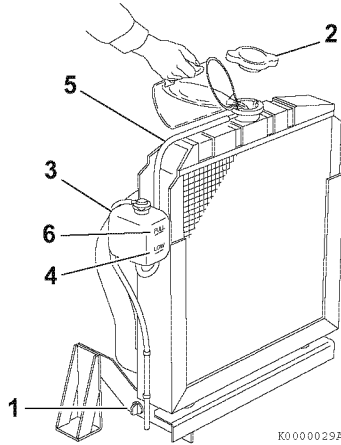
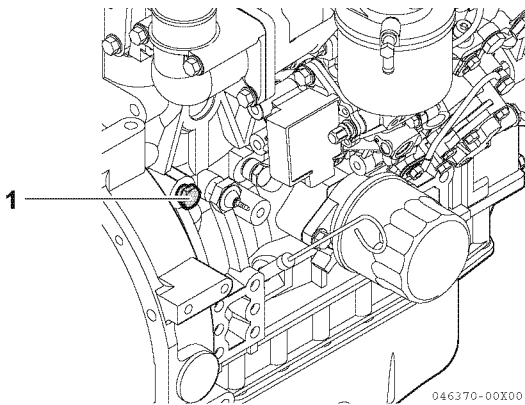

Figure 4-6
Figure 4-7
Fill the radiator and reserve tank as follows. This procedure is for filling the radiator for the first time or refilling it after it is flushed. Note that a typical radiator is illustrated (Figure 4-6).
1. Check to be sure the radiator drain plug is installed and tightened or the drain valve (1, Figure 4-6) is closed. Also make sure the engine coolant drain plug (1, Figure 4-7) in the cylinder block is closed.
2. Remove the radiator cap (2, Figure 4-6) by turning it counter-clockwise about 1/3 of a turn.
4. Reinstall the radiator cap (2, Figure 4-6). Align the tabs on the back side of the radiator cap with the notches on the engine coolant filler port. Press down and turn the cap clockwise about 1/3 of a turn.
5. Remove the cap on the reserve tank (3, Figure 4-6), and fill it to the LOW (COLD) mark (4, Figure 4-6) with engine coolant. Reinstall the cap.
6. Check the hose (5, Figure 4-6) that connects the reserve tank (3, Figure 4-6) to the radiator. Be sure it is securely connected and there are no cracks or damage. If the hose is damaged, the engine coolant will leak out instead of going into the reserve tank.
7. Run the engine until it is at operating temperature. Check the level of engine coolant in the reserve tank. When the engine is running and the engine coolant is at normal temperature, the engine coolant level in the tank should be at the FULL (HOT) mark (6, Figure 4-6). If the engine coolant is not at the FULL (HOT) mark (6, Figure 4-6), add additional engine coolant to the reserve tank to bring the level to the FULL (HOT) mark.
1. Check the level of engine coolant in the reserve tank. When the engine is cold, the engine coolant level in the tank should be at or slightly above the LOW (COLD) mark (4, Figure 4-6) on the engine coolant reserve tank.
If the engine coolant level is at the FULL (HOT) mark (6, Figure 4-6) when the engine is cold, the engine coolant will expand when it becomes hot and possibly spray out of the overflow hose.